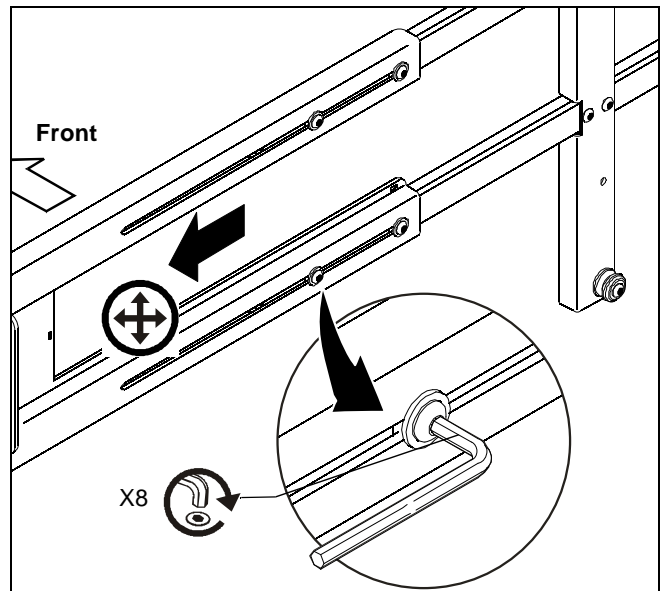

**Figure 11**
6. Install speaker mounting brackets with speakers to speaker mounting rails by using four button head cap screws and four washers set aside earlier. (See Figure 11)